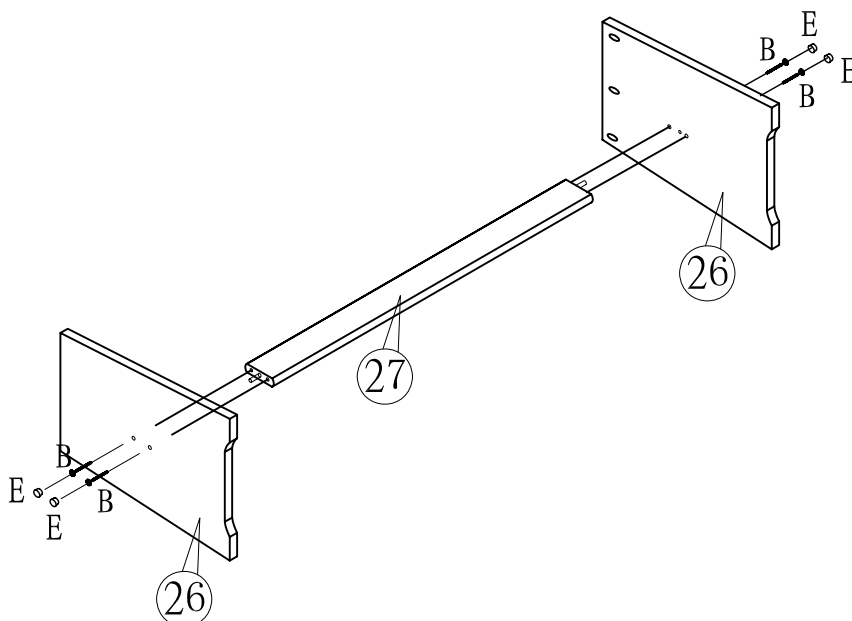

FIGURE 6
- 3.1 ATTACH CROSSBAR #27 TO LEGS #26 USING (04) SCREWS (B). AS SHOWN IN FIGURE 6.